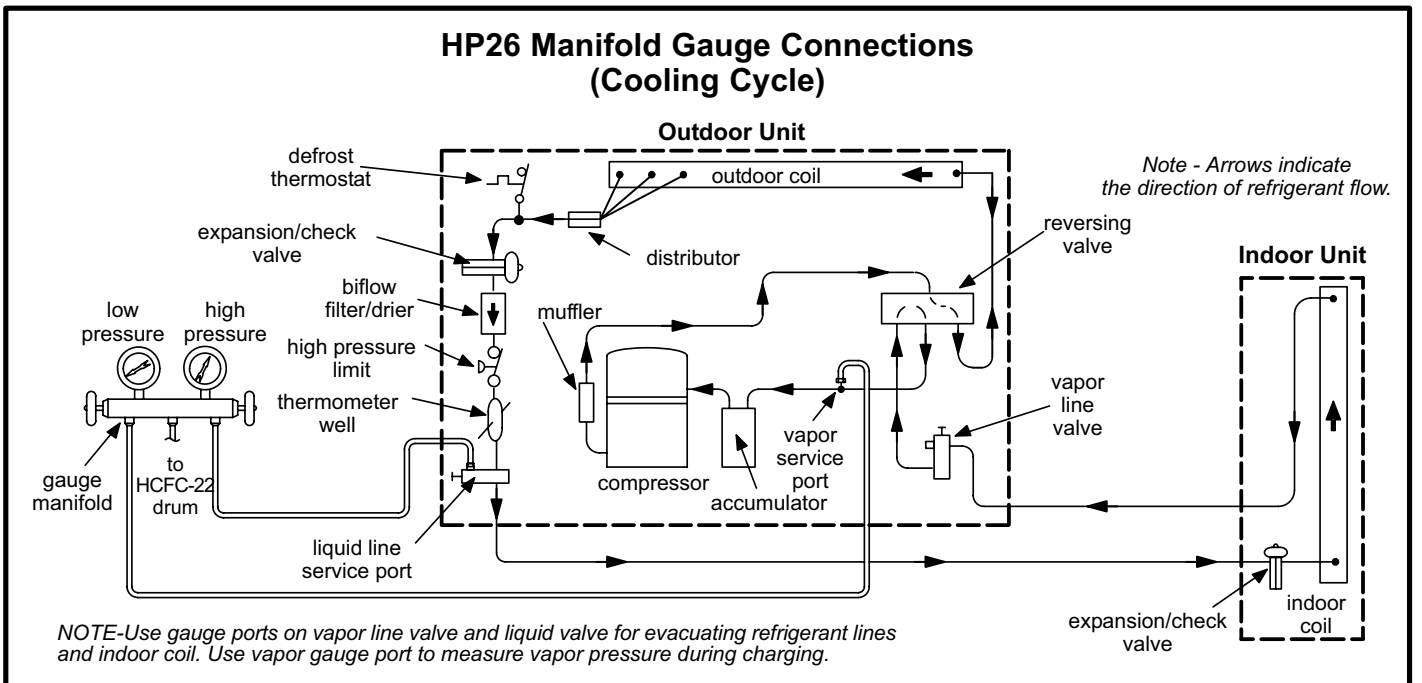

Figure 16
When checking the unit charge, use a manifold gauge set that is equipped with “low loss” hoses. Do not use a manifold gauge set with anything other than a “low loss” hose. See figure 16 for manifold gauge connections.
- 1 - Close manifold gauge set valves. Connect the manifold gauge set to the service valves shown in figure 16:
The filter drier is equipped with an internal check valve for correct refrigerant flow (see figure 16). If replacement is necessary, order another of the same design and capacity. A liquid line strainer gives additional compressor protection.